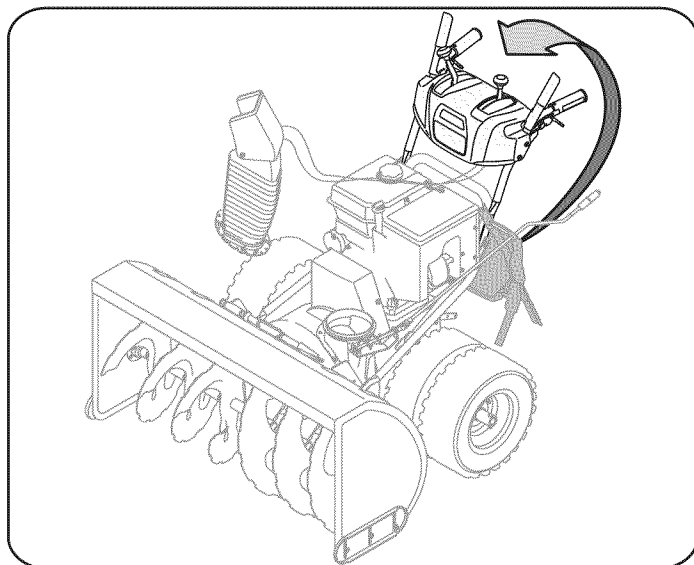

Figure 2
4. Raise the upper handles by pulling up and back on the grips of the upper handles until they are aligned with the lower handle. See Figure 2.